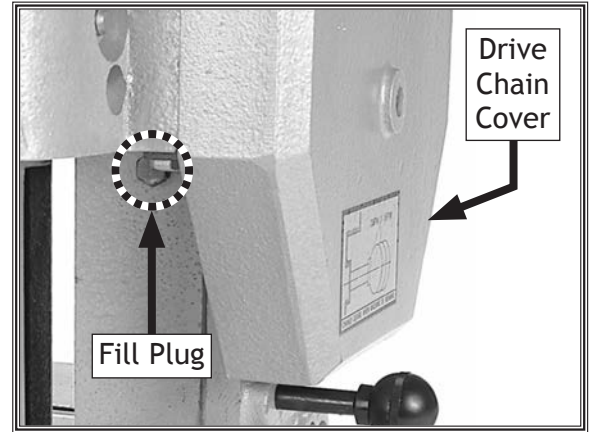

Figure 16. Location of gearbox fill plug.
Note: For easier access to the fill plug, remove the drive chain cover (see **Figure 16**).
1. Remove gearbox fill plug (see **Figure 16**).